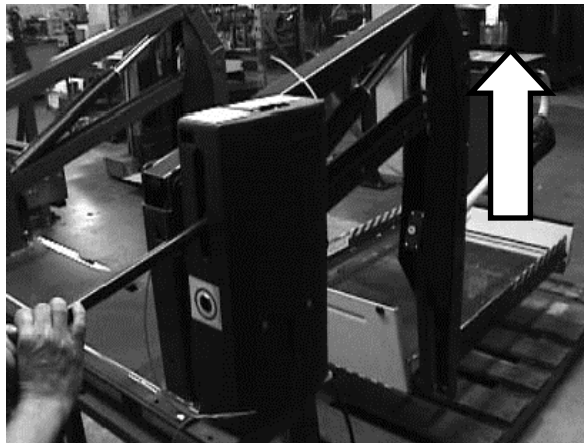

Figure 2. Raise Platform
1. Refer to **Figure 2**. Manually raise platform approximately 6 inches to access bottom of platform.